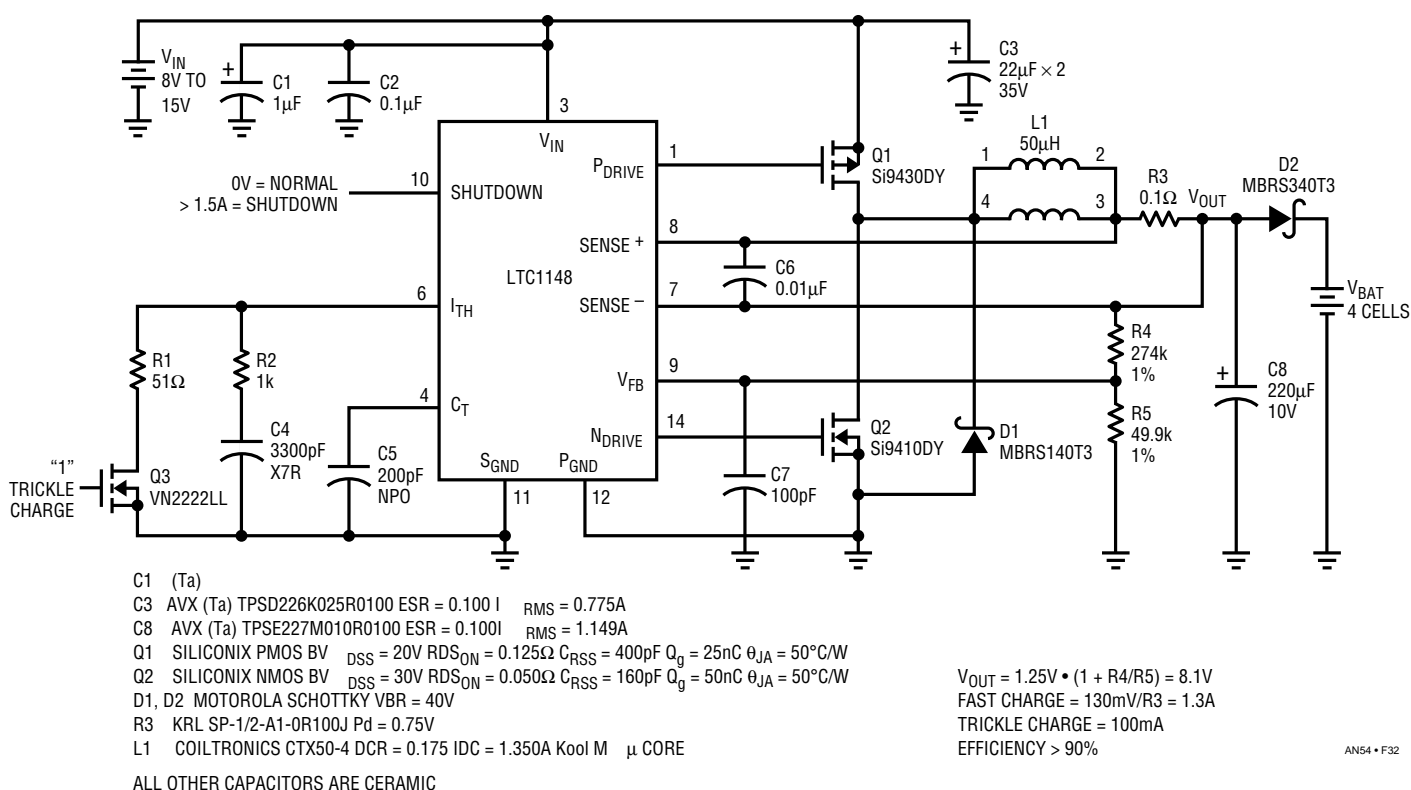
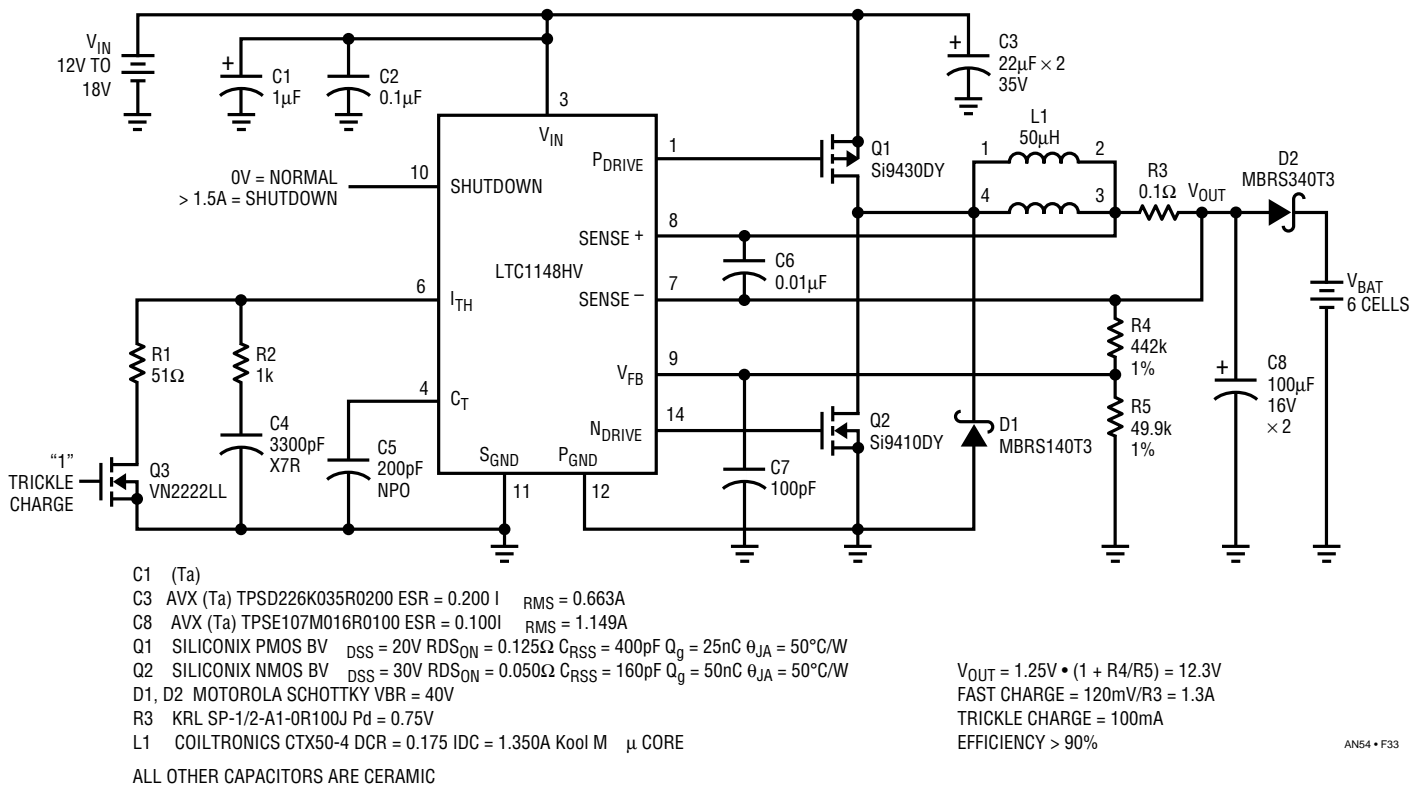

Figure 32. LTC1148: High Efficiency Charger Circuit
Figure 33. LTC1148: High Voltage Charger Circuit
The LTC1148 regulator can be used as a highly efficient battery charging device. Figure 32 shows a circuit that is programmable for 1.3A fast charge or 100mA trickle charge mode. During the fast charge interval, the resistor divider network (R4 and R5) forces the LTC1148 feedback pin below 1.25V causing the regulator to operate at the maximum output current. Sense resistor R3 controls the current at approximately 1.3A. When the batteries are disconnected, the error amplifier sets the output voltage to be 8.1V (for proper operation this voltage should exceed
Figure 33 is a variation of Figure 32. It is designed to charge 6 cells and uses the LTC1148HV for higher input voltages. R4 value has been changed to provide 12.3V output when the battery is not connected.
3.3V/2A in a regular buck configuration. The other section is configured in the same way as the battery charger from Figure 32. It is powered from a wall adapter and provides the battery with fast or trickle charging rate. When the adapter is not connected, D3 prevents the battery from discharging through the R2/R1 divider network.